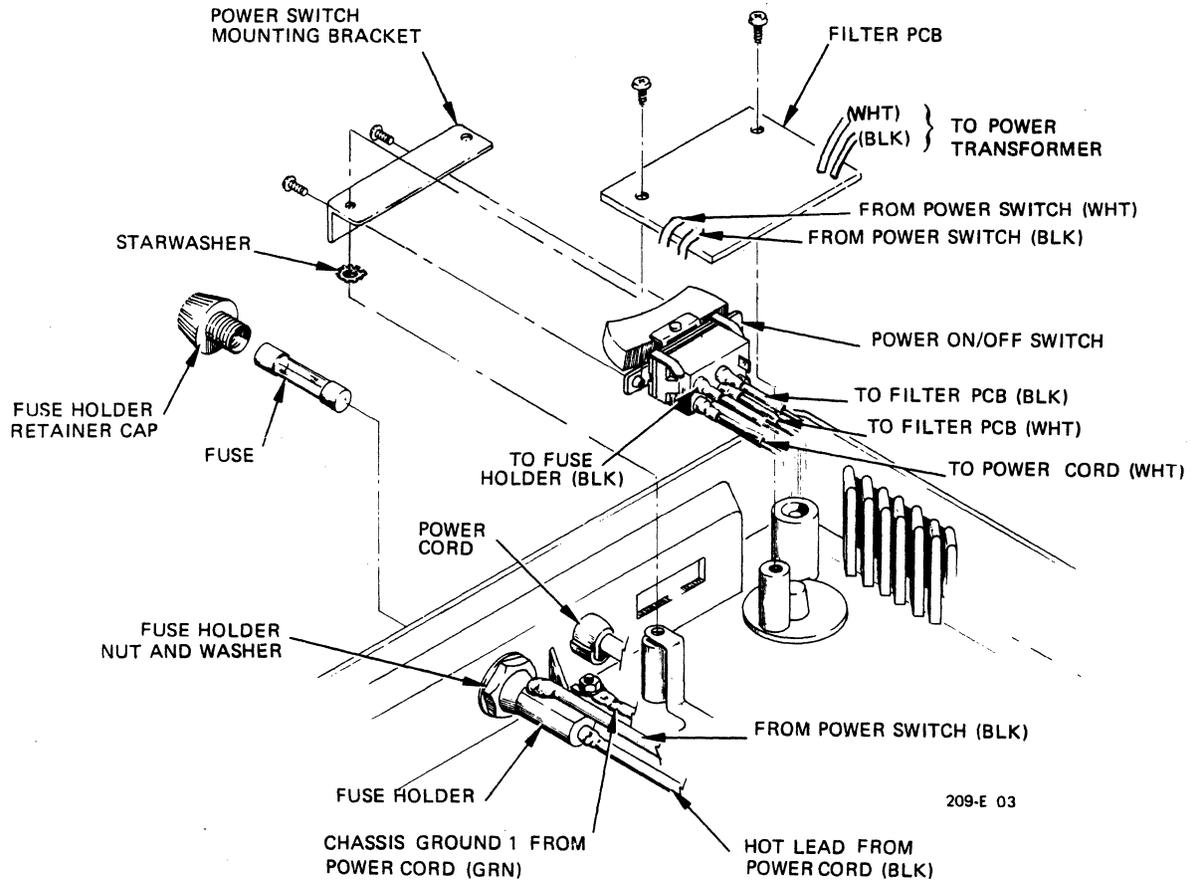

Figure 2-7. Power ON/OFF Switch and Fuse Holder Removal and Replacement
2. Disconnect connector P5 from the Power/Logic PCB assembly. See Figure 2-7.
3. Remove the two screws that secure the Filter PCB. See Figure 2-7.
2. Remove the two screws that secure the filter PCB and the power switch with bracket in the bottom cover. See Figure 2-7.
2. Note the arrangement of the two leads on the fuse holder. Unsolder these leads from the fuse holder. See Figure 2-7.